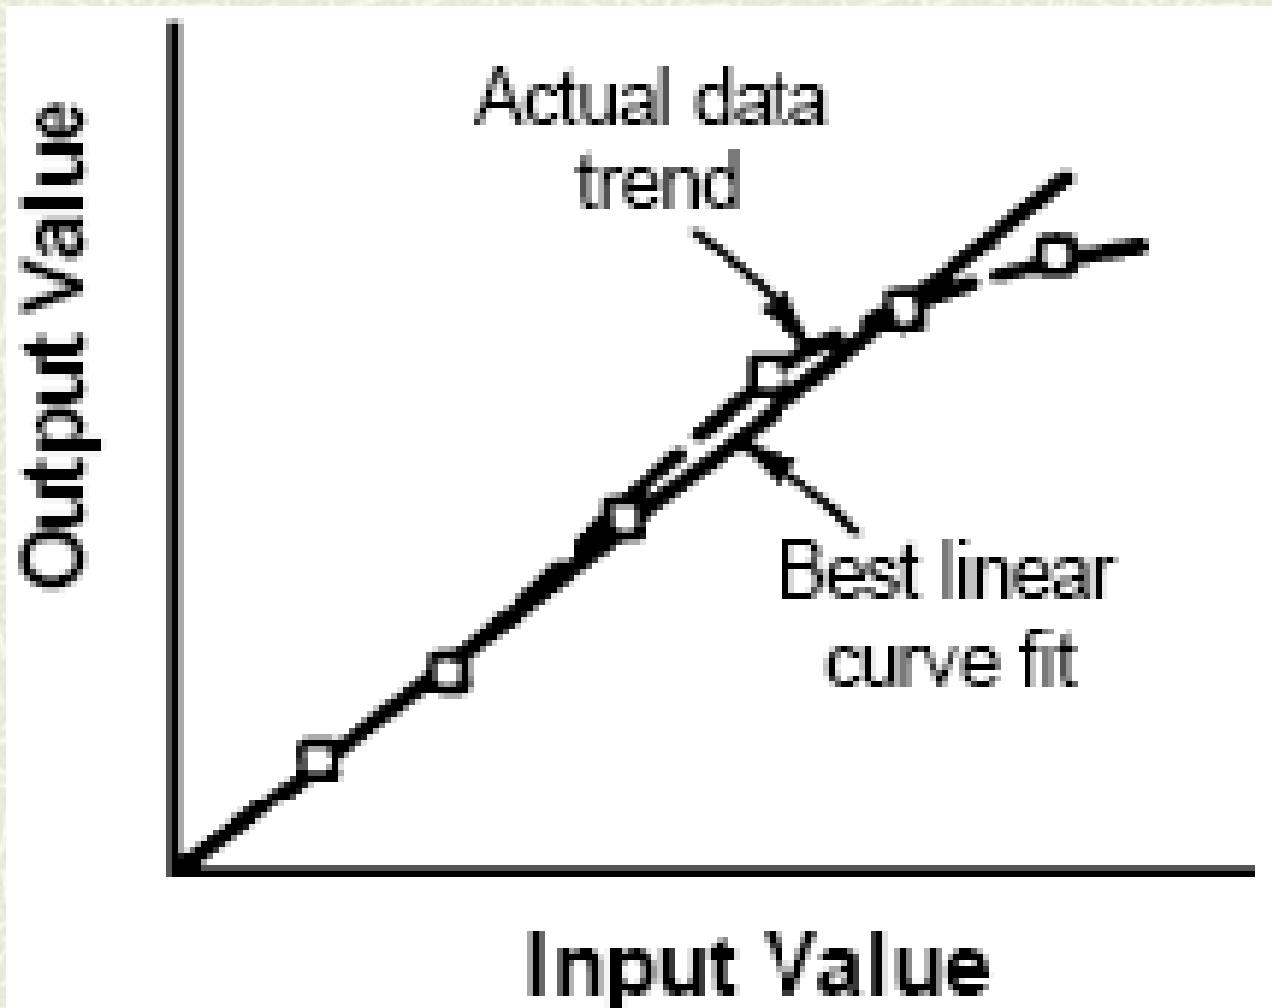

Figure 2.3
- # Such behavior is illustrated in Figure 2.3 in which a linear curve has been fitted through a calibration data set